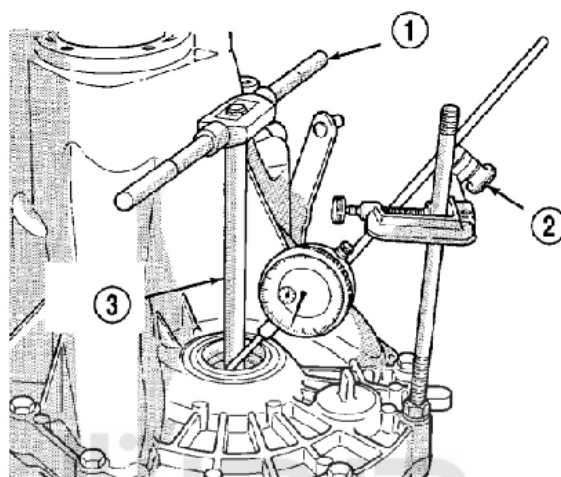

Figure 3-77 Checking the end gap of differential bearing and determining the thickness of gasket
(6) Apply medium down force to the differential with tool C-4995 and tap holder and rotate the differential back and fro for many times so that the bearing is stabilized, then clear the dial gauge. To obtain the end gap value, rotate the differential back and fro and apply a medium don force, then write down he clearance (Figure 3-77).